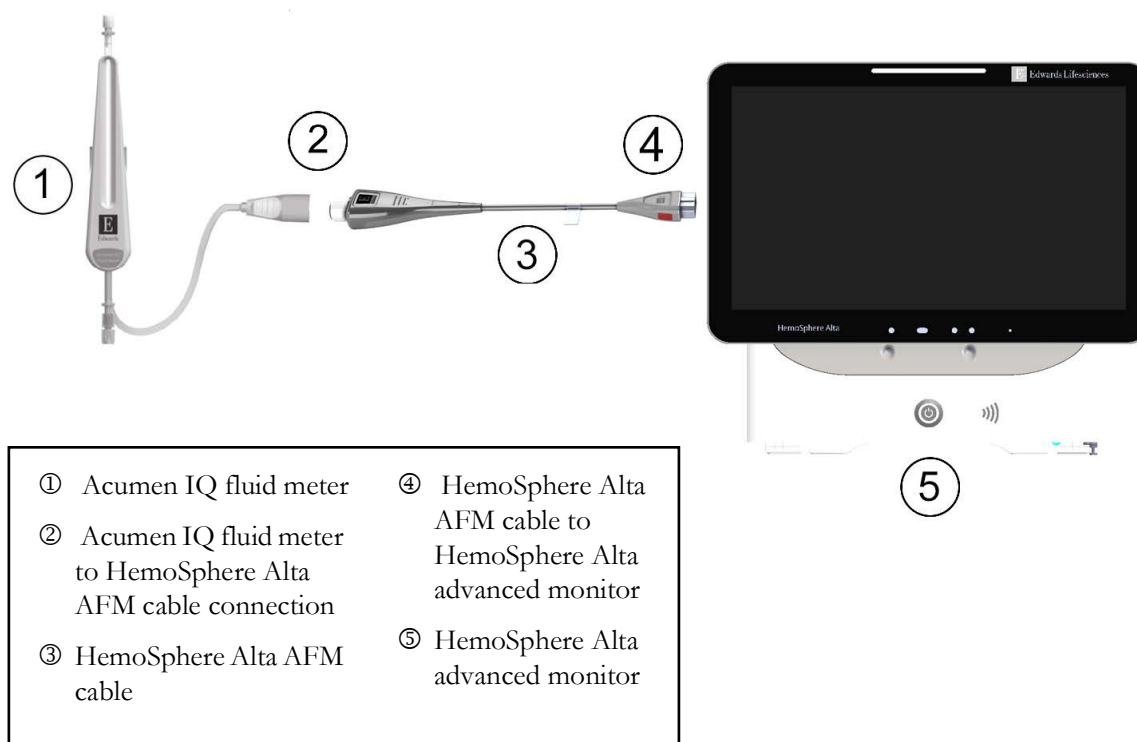

Figure 13-15 Acumen IQ fluid meter and HemoSphere Alta AFM cable connection overview
- 3 Connect the Acumen IQ fluid meter to the end of the Acumen AFM cable indicated by ② in Figure 13-15.